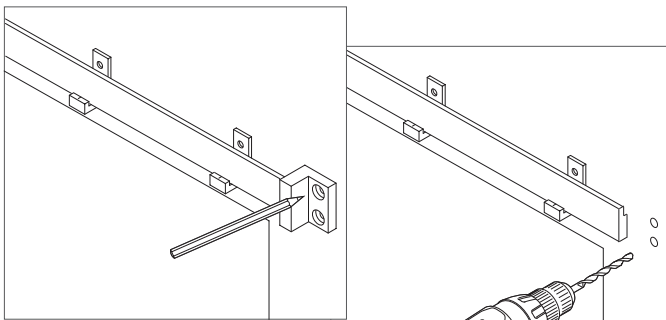

Figure 8
10. Slide the remaining end bracket onto the end of the track. Mark the holes for the end bracket using a pencil. (Figure 8). Set the bracket aside.